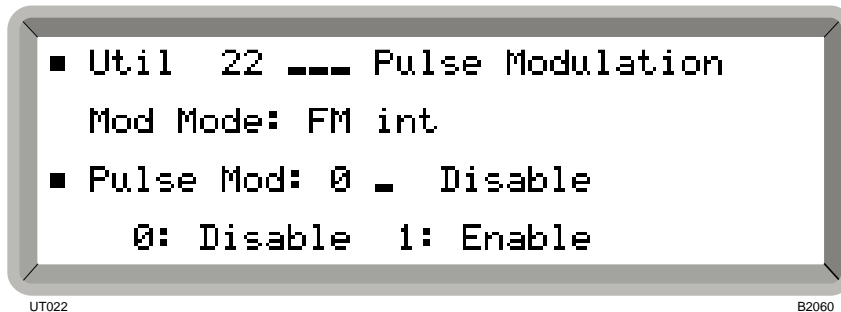

Fig. 4-24 Pulse modulation menu
- (1) Select the *Util 22: Pulse Modulation* menu. This shows the currently selected modulation mode against *Mod Mode*: (see Fig. 4-24).